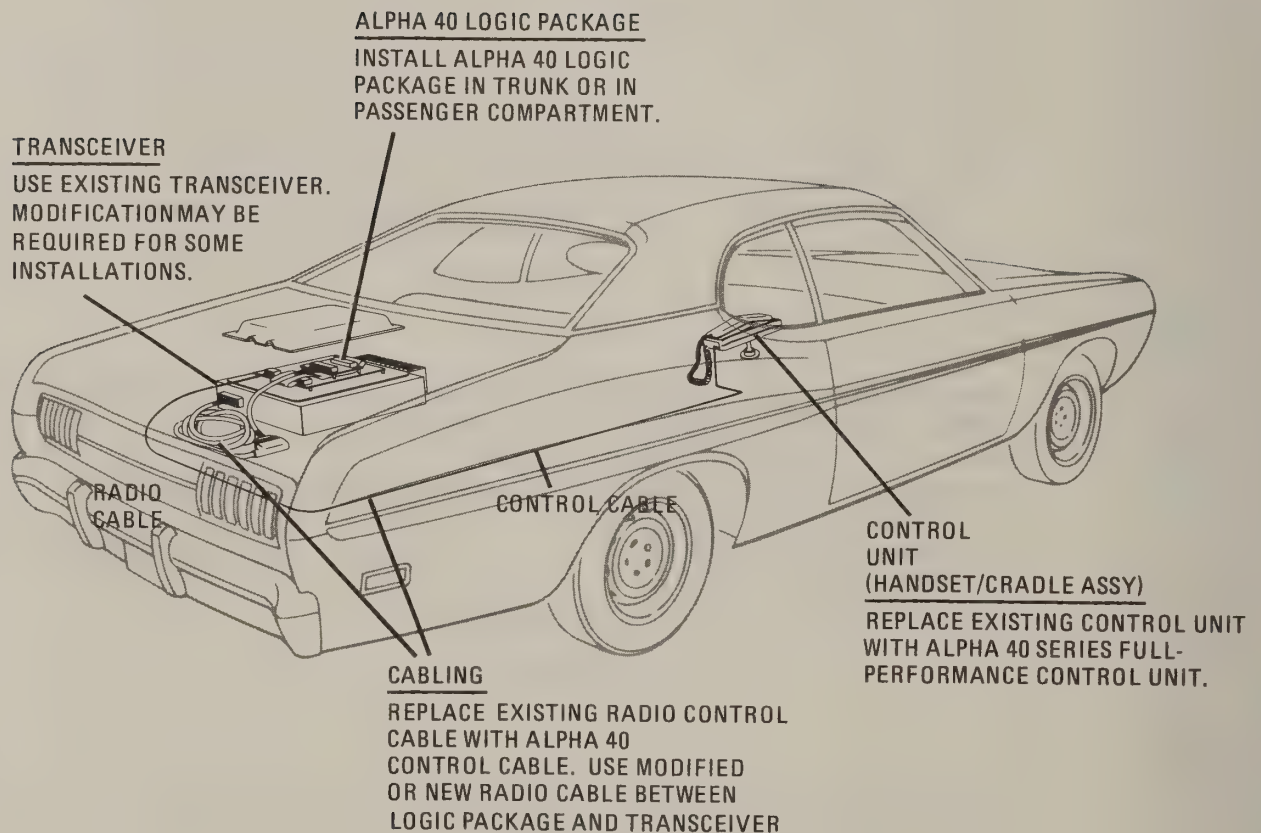

Figure 1-1. Typical ALPHA 40 Control Unit Adaptation to Existing Mobile Telephone Installation
1.01 The advantages and special features of ALPHA 40 Series Control Units can be added to many existing mobile telephone installations using interface kits available from Harris Corporation, RF Communications Division. Interface Kits are available to adapt the RF-4940, RF-4970, and RF-4980 ALPHA 40 Series Control Units to all of the Harris, General Electric and Motorola mobile telephone installations listed in Table A. The general procedure for a typical installation is outlined in figure 1-1. Other installations may also be adaptable; for information regarding installations not included in Table A, contact Harris Corporation, RF Communications Division, 1680 University Avenue, Rochester, New York 14610 USA. Please address inquiries to the attention of: Marketing Department, ALPHA 40.
INSTALLATION SEQUENCE (Refer to figures 1-1 and 1-2)